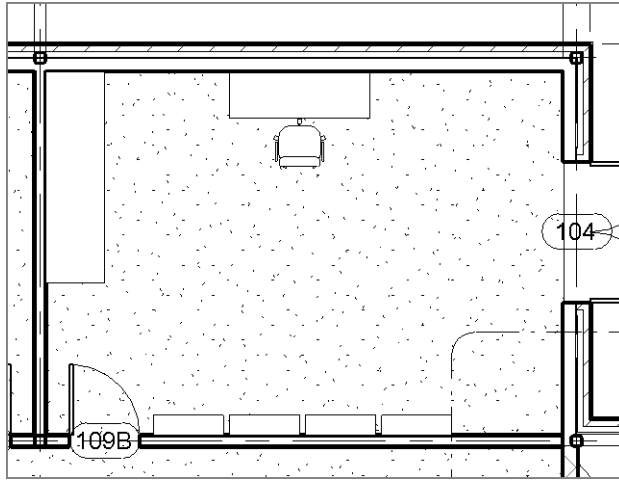

FIGURE 9.53: Adding furniture to the office
10. From the Type Selector, select Chair-Executive, and place it in front of the credenza, as shown in Figure 9.53.
11. In the Type Selector, select the Entertainment Center 96" × 84" × 30" (2743 × 2134 × 762mm) and place it in the corner (see Figure 9.53).
12. Place four 36" (915mm) shelving units across the south wall, as shown near the bottom of Figure 9.53.